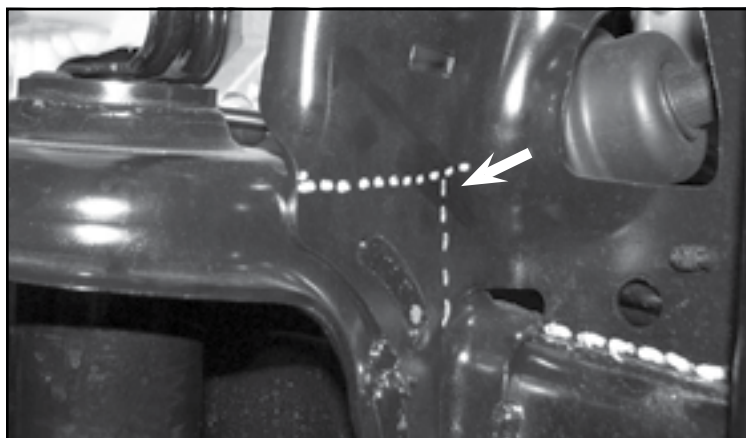

FIGURE 6 - STEP 7
7. Mark 90 degrees on the inside of the shock tower only, not the coil bucket. **SEE FIGURE 6**